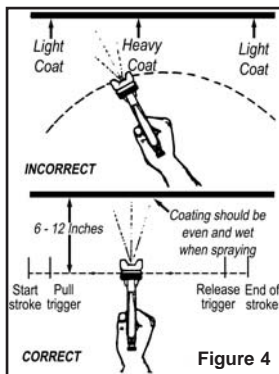

Figure 4
6. Begin spraying. Hold the gun about 6 to 9 inches from the work surface and while moving the gun from side to side, depress the trigger to begin applying material. To avoid blobs, runs and lap marks, keep the gun in motion at all times before, after and while the trigger is depressed (see Figure 4). Practice painting on a piece of scrap material or cardboard until the test coating results are acceptable, making adjustments as follows: